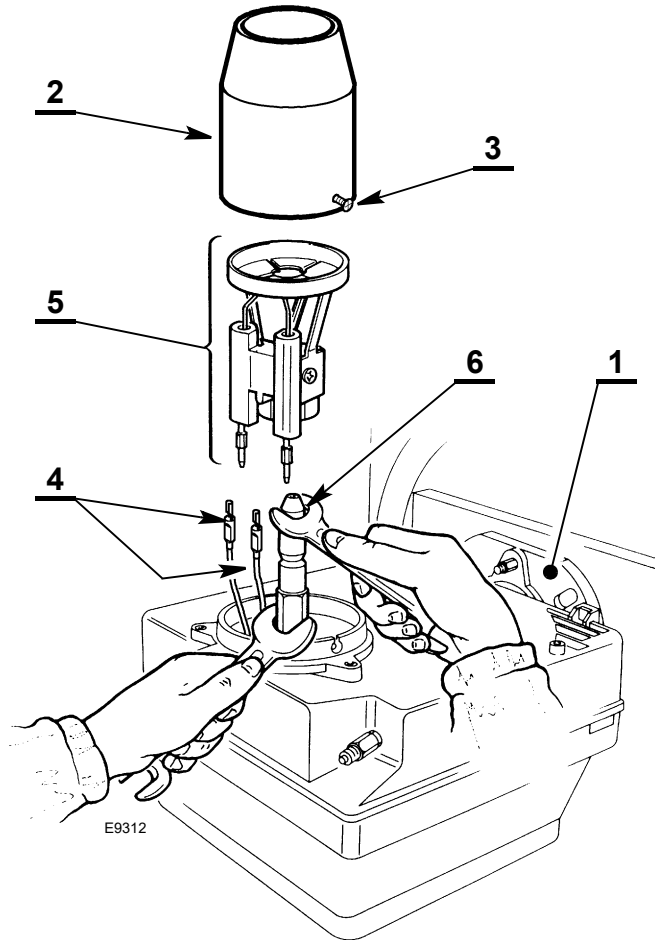

Fig. 23
- Couple the burner to the flange 1)(Fig. 23), loosen the screws 3) then remove the blast tube 2).
- Replace and correctly screw in the nozzle 6) tightening it as shown in Fig. 23.